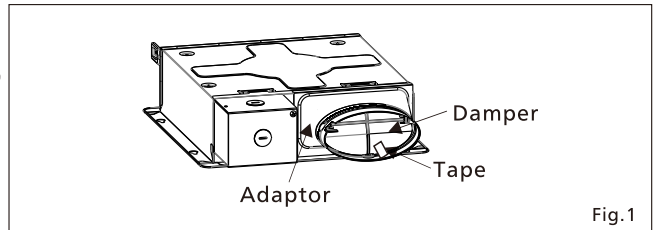

Fig.1
1. Before installation, remove the tape from damper and adaptor, and check that the damper can open and close smoothly. (Fig.1)
1. Before installation, remove the tape from damper and adaptor, and check that the damper can open and close smoothly. (Fig.1 of page 5)